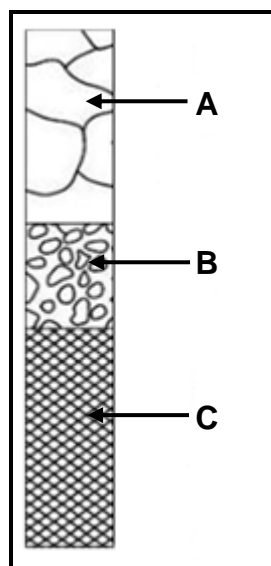

FIGURE 3.2
3.2 FIGURE 3.2 shows the annealing process during heat treatment. Label components **A–C**.